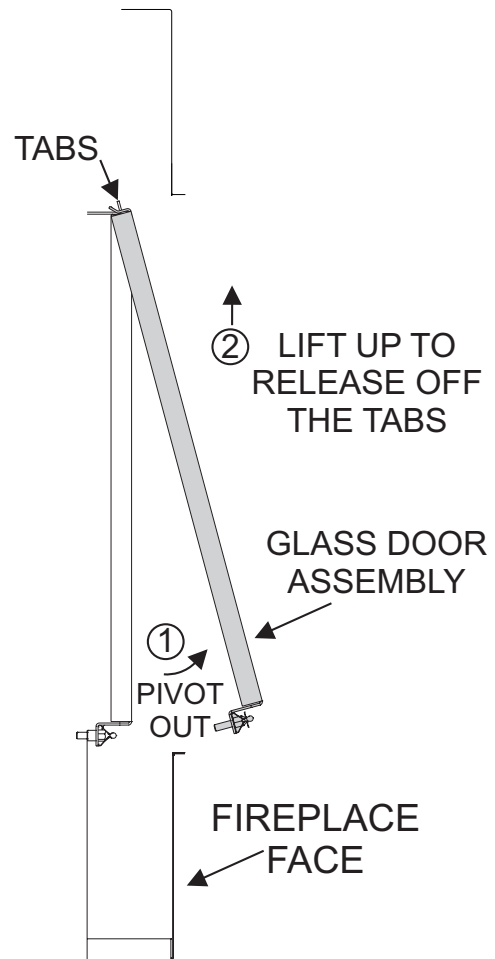

Figure 29
Pivot the glass door out until the bottom of the door is about 6 to 8 inches from the firebox face, then lift upward on the door assembly to disengage the top of the door from the tab retainers on top of the firebox. See Figure 29.
- Check the barrier screen for fit and structural integrity. **See Figure 29.**